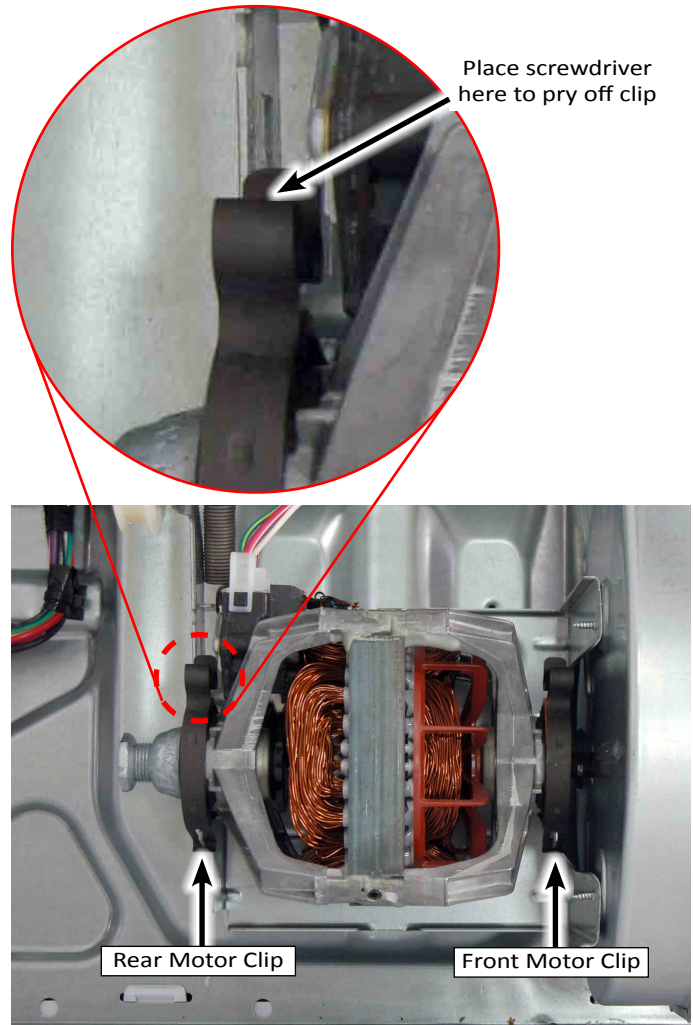

Figure 3
8. Locate the front and rear motor clips as illustrated in Figure 3 below. Using a small flat blade screwdriver, insert the blade of the screwdriver into the pocket at the tip of the clip. Pry the clips off the tab and remove.